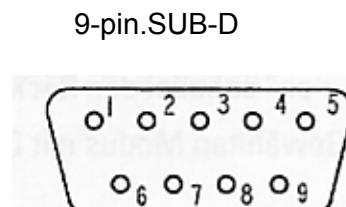

fig. 50
- Turn power switch (29) OFF. Hit „Cal" key (34), and, while holding depressed, turn power switch (29) ON.
- Pump head, e.g. "Pu 1" is displayed (41).
- Hit arrow keys (35) until „r on" or „r off" is displayed (41).
- Confirm mode with select key (36).
9.4. Interfaces (fig. 50)
9.4.2. RS 232 interface (fig. 50)